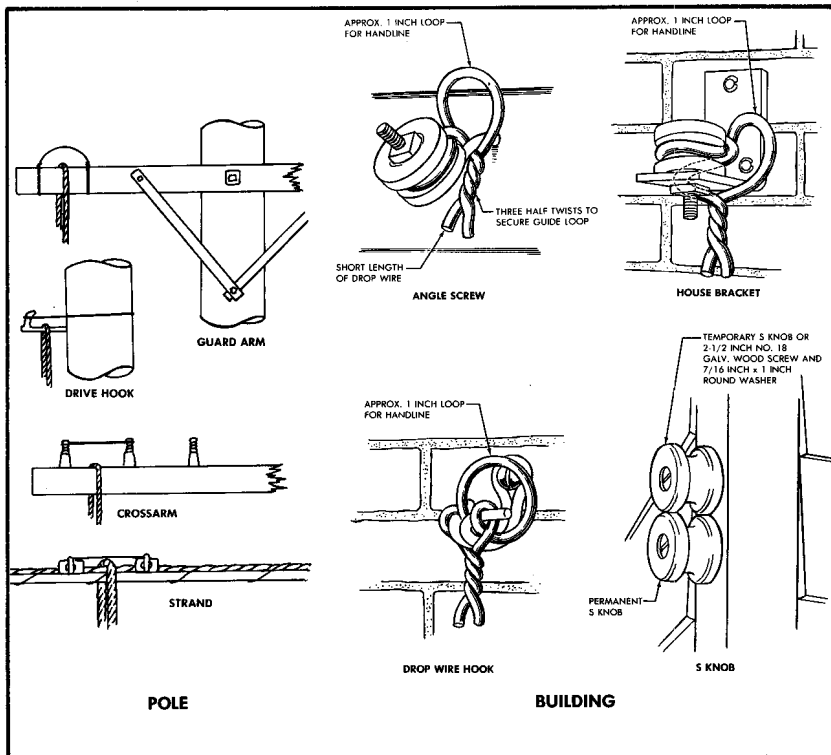

FIGURE 1. Temporary Guide Loops
disengaged from a drive hook or crossarm, or to slide along the strand or guard arm while work is being done, the handline or drop wire shall be enclosed with a temporary guide loop. This loop shall consist of a short length of wire or rope placed over the handline or drop wire, with the ends of the guide securely tied as follows (Figure 1):
b. **Employee No. 1** attaches a temporary guide loop to the first building attachment (Figure 1) to prevent the drop wire from becoming accidentally disengaged from the building attachment during the placing operation.